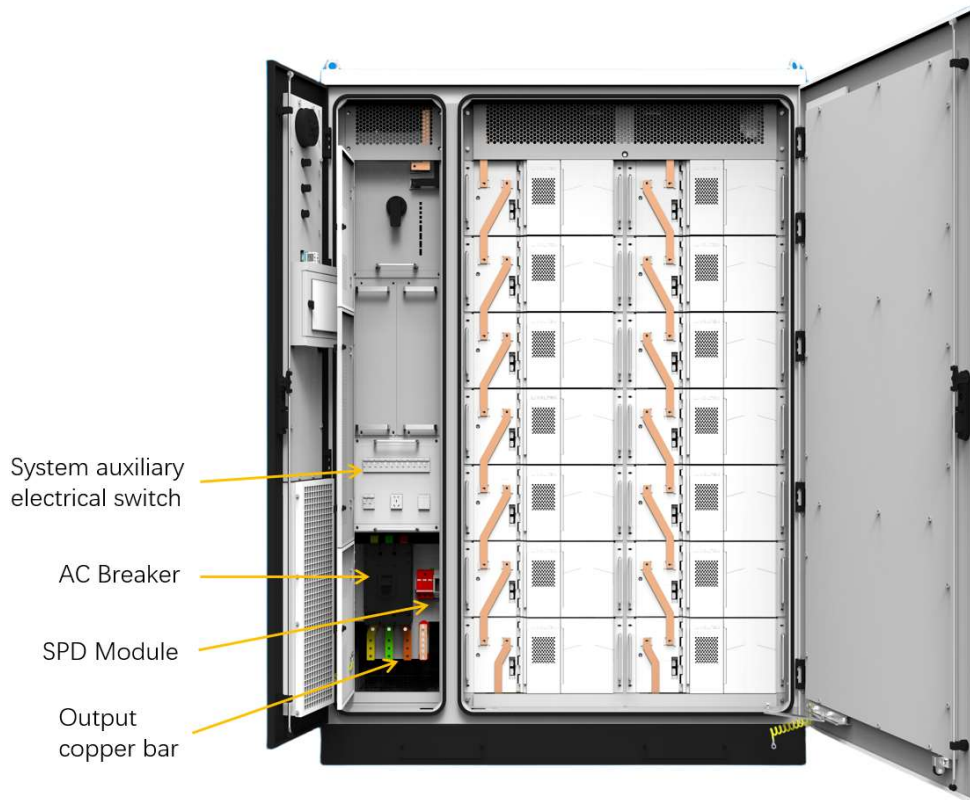

Figure 4.1 Distribution switch location diagram
5) Component Check: Referring to Figure 4.1, the circuit breakers are all in the open position; the lightning protector indicator mark is green.
- 3) Referring to Figure 4.1, close all auxiliary power switches on the system;
- 4) Referring to Figure 4.1, disconnect all auxiliary power switches of the system, the touch screen goes out, and the unit completes shutdown.
- 2) Referring to Figure 4.1, break out all auxiliary power switches of the system;
- 1、 System open: first check the whole machine on the power, close the DC load switch, refer to Figure 4.1 to close the system auxiliary power switch, observe the touch screen without fault alarm (screen startup takes about 30 seconds);